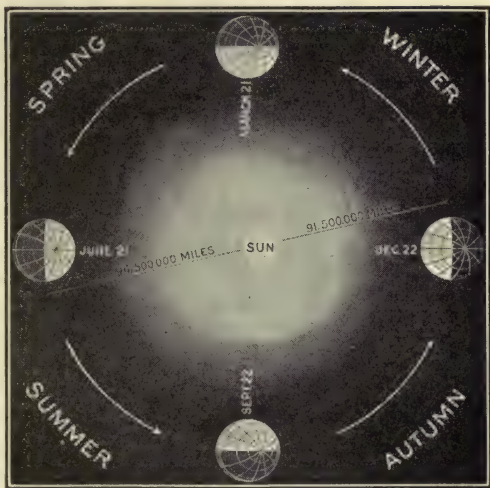
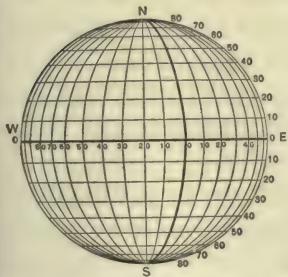

FIG. 265. — Position of the northern hemisphere during the year.
FIG. 266. — Parallels of latitude and meridians of longitude.
with the position of the earth in its orbit. On March 21 (Fig. 265), the circle of illumination passes through the north and south poles, and half of the equator and half of every parallel of latitude1 (Fig. 266) are alternately illuminated and shut off from the sun, and days and nights are equal everywhere. On
**Summer and winter.** — The amount of heat we receive from the sun depends upon how the rays strike us; the more nearly overhead the sun is, the more heat we receive; the farther the sun is from being overhead, the more slanting are the rays, and the less heat we receive. In December (Fig. 265) the northern hemisphere is turned away from the sun; a portion of it receives rays more slantingly than the southern hemisphere which is turned toward the sun. Because the northern hemisphere